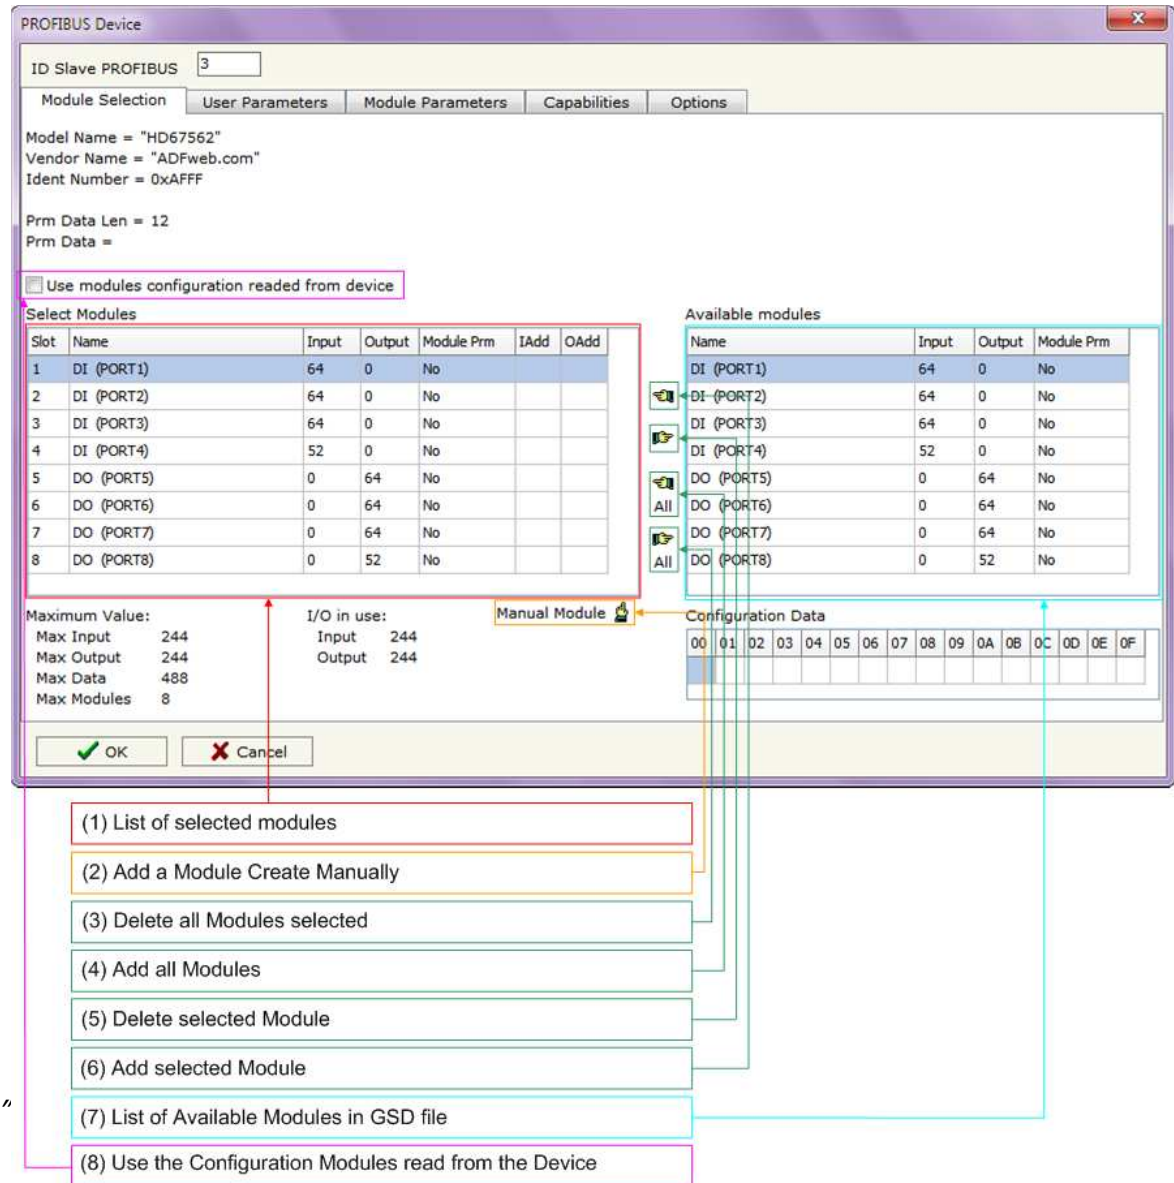

Figure 7: "PROFIBUS Device – Module Selection" window
The section "Module Selection" is used to select which Modules are present in the Slave (Fig. 7).
- Check the list of the Modules selected ("Select Modules") (Fig. 7, point (1)) and the list of Modules Available in GSD file ("Available Modules") (Fig. 7, point (7));
- Add a Module from the list of GSD file (Fig. 7, point (6));
- Remove a Module from selected list (Fig. 7, point (5));
- Add all Modules present in the GSD file (Fig. 7, point (4));
- Remove all Modules from selected list (Fig. 7, point (3));
- Insert a Module not present in the GSD file ("Manual Module") (Fig. 7 point (2)). For more info see the section "Manual Module" below;
- Enable the read of configuration directly from the PROFIBUS Slave ("Use module configuration read from device") (Fig 7, point (8)). If this option is enable the configuration of the modules is discarded and the device read the correct configuration directly to the PROFIBUS slave.
To modify a Module inserted manually, is necessary to do a double click on the module to change in the "Select Module" list (Fig. 7, point (1)). It is possible to change only the module inserted manually.